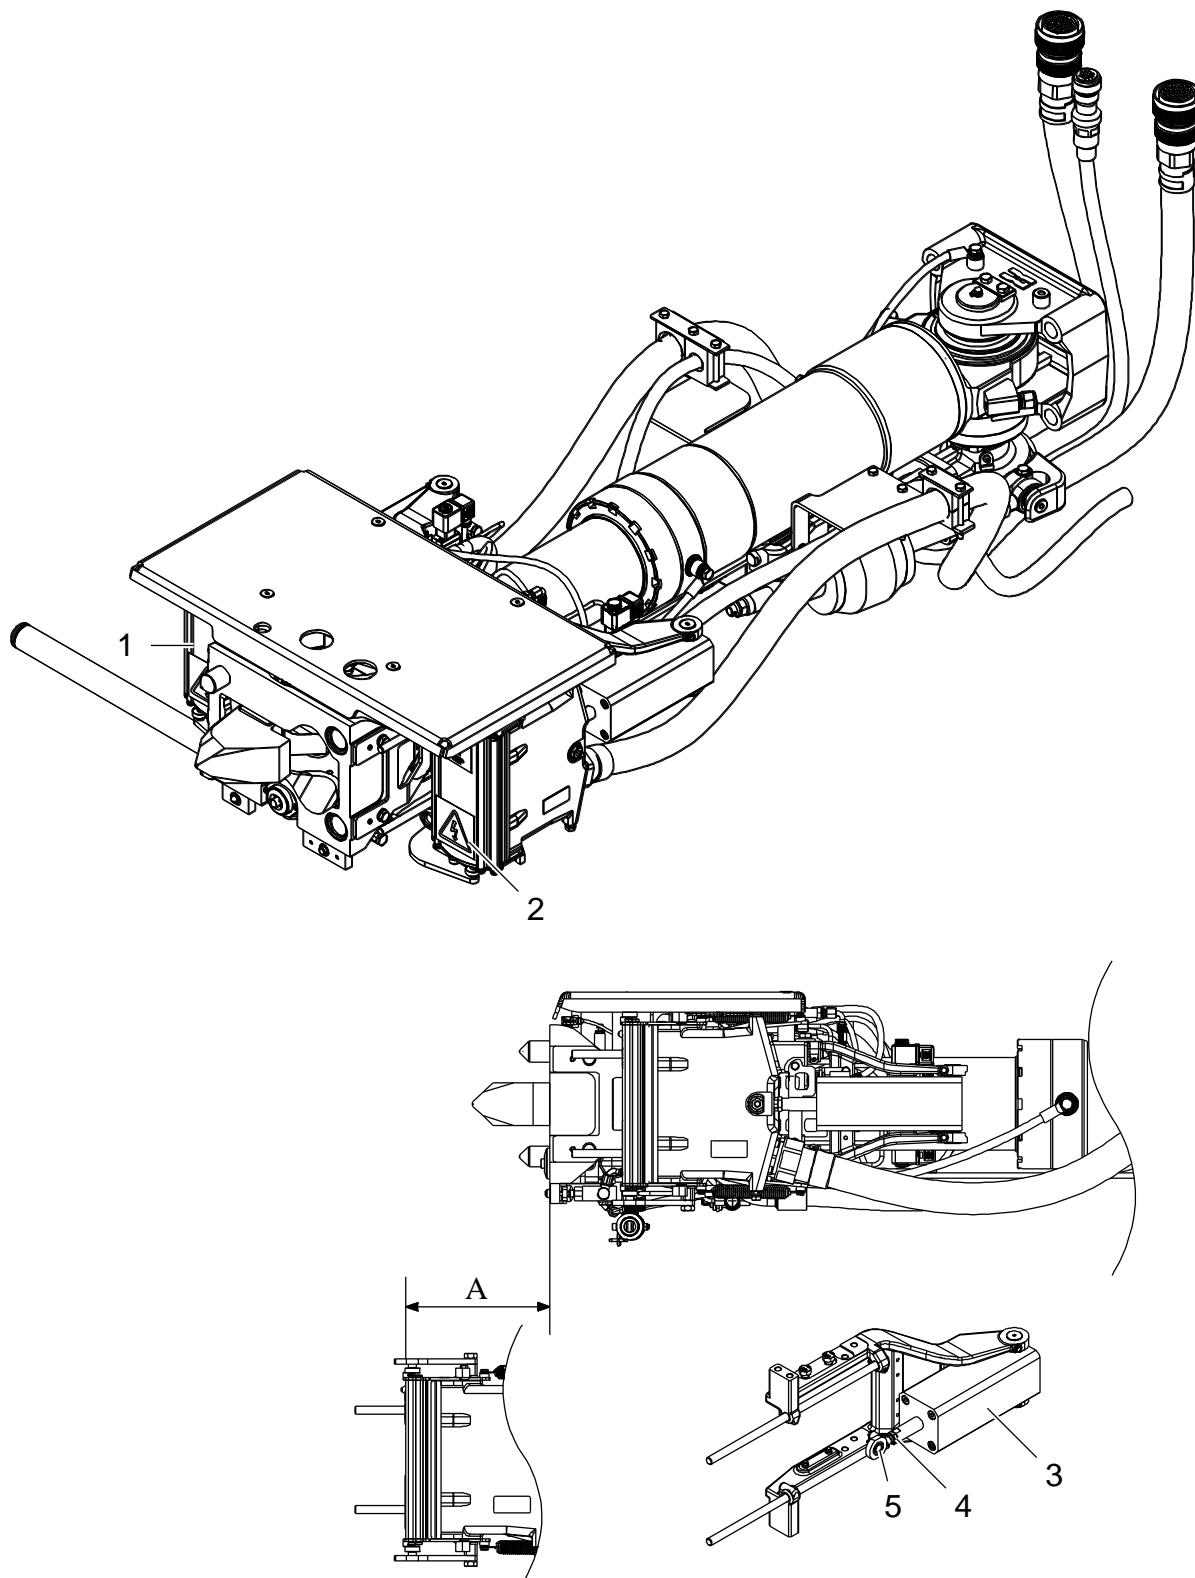

Figure 5-4: Inspect Electrical Coupler
1. Move electrical couplers (1 and 2) to their front (extended) position. See Figure 5-4.
2. Loosen nut (4) on operating cylinder (3).
3. Adjust electric coupler until electric coupler front face is aligned with the mechanical coupler front face by turning piston rod (5), (A=0).
5. Tighten nut (4) and move electrical couplers to their rear (retracted) position.